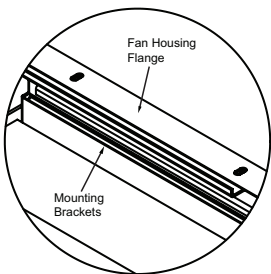

Figure 3
3. With the damper secured to the fan housing, the assembly can be attached to the structure above using the holes in the fan housing flange or the supplied mounting brackets. If the mounting brackets are used, position the mounting brackets under the damper mounting flanges or under the fan housing flange as required. Position the slot so it aligns with the holes in the fan housing and/or the holes in the damper mounting flanges (See Figure 3). If the damper/fan is being attached to the adjacent structure, the brackets must be used and adjusted to fit accordingly. If the damper/fan is supported from structure above, the brackets should be adjusted so the ends of the brackets align accordingly. Once the brackets are adjusted, attach them to the flange of the fan housing using four #10-32 screws and nuts supplied. A minimum of two fasteners per side is required.